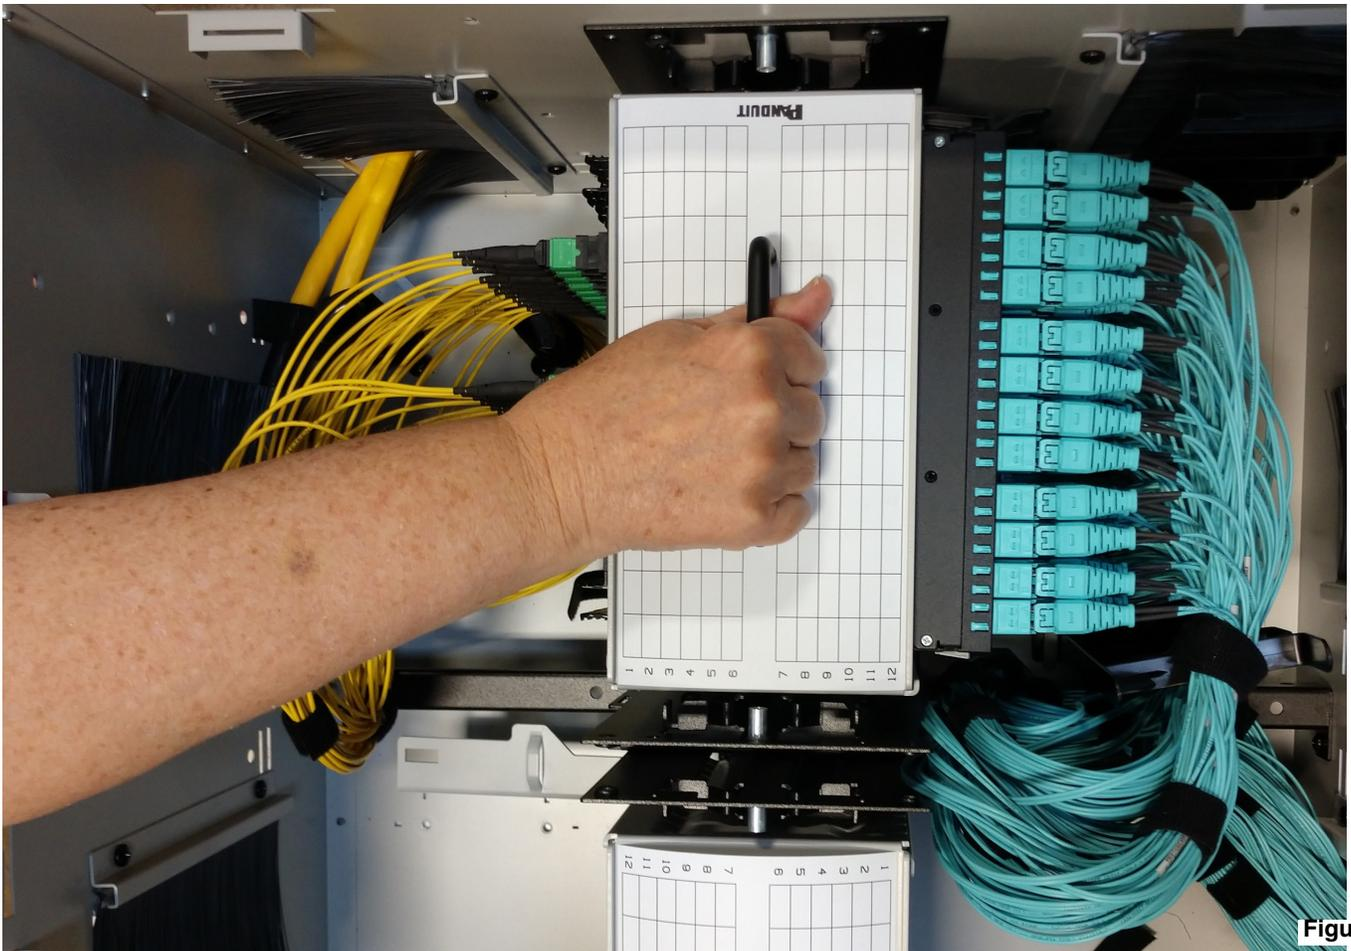

Figure 25
g. Grab handle and rotate patch panel downward, ensuring that no fiber cables are pinched. (See Figure 25).